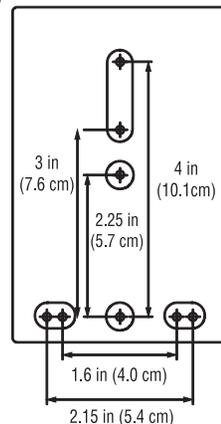

Fig. 2
2. Secure the winch to the mounting structure with 3/8 inch diameter Grade 8 bolts, washers and lock nuts (not included). The winch base hole pattern can be found in **Figure 2**.